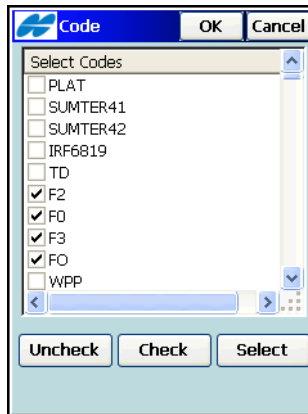

Figure 5-6. Code
- **Select** – opens the *Code* screen (see Figure 5-6 on page 5-7) for code selection.
The *Code* screen contains a list of available codes. All points with codes selected here are imported (Figure 5-6 on page 5-7).